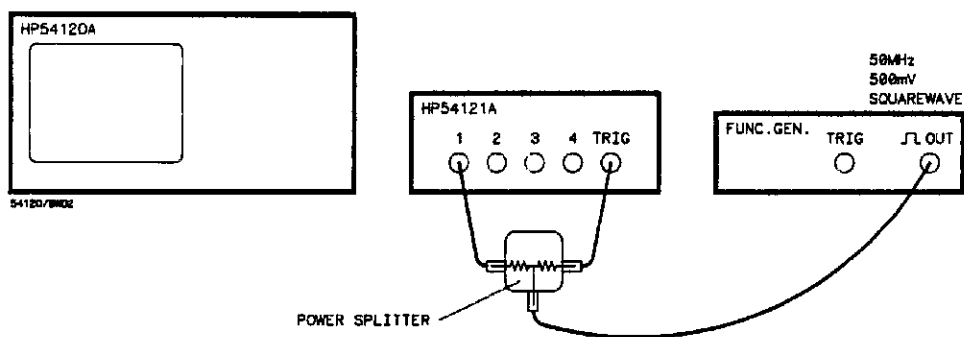

Figure 10-2. Equipment Configuration
- Connect the output of the function generator to channel 1 and trigger inputs of the HP 54121A test set with the power splitter (see figure 10.2).
- Connect the output of the function generator to channel 1 and trigger inputs of the HP 54121A test set with the power splitter (see figure 10-2).